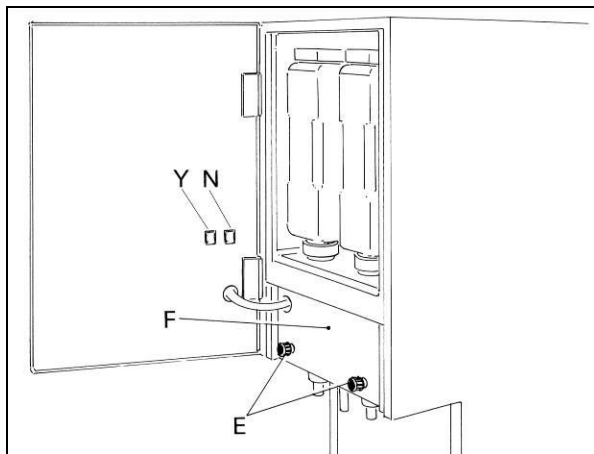

Fig. 2
- **L**oosen the knobs E and take the carter F off (Fig. 2).
- **S**witch off the water circuit button N (Fig.2).
- **S**witch off the syrup circuit (position 0 button Y fig. 2).